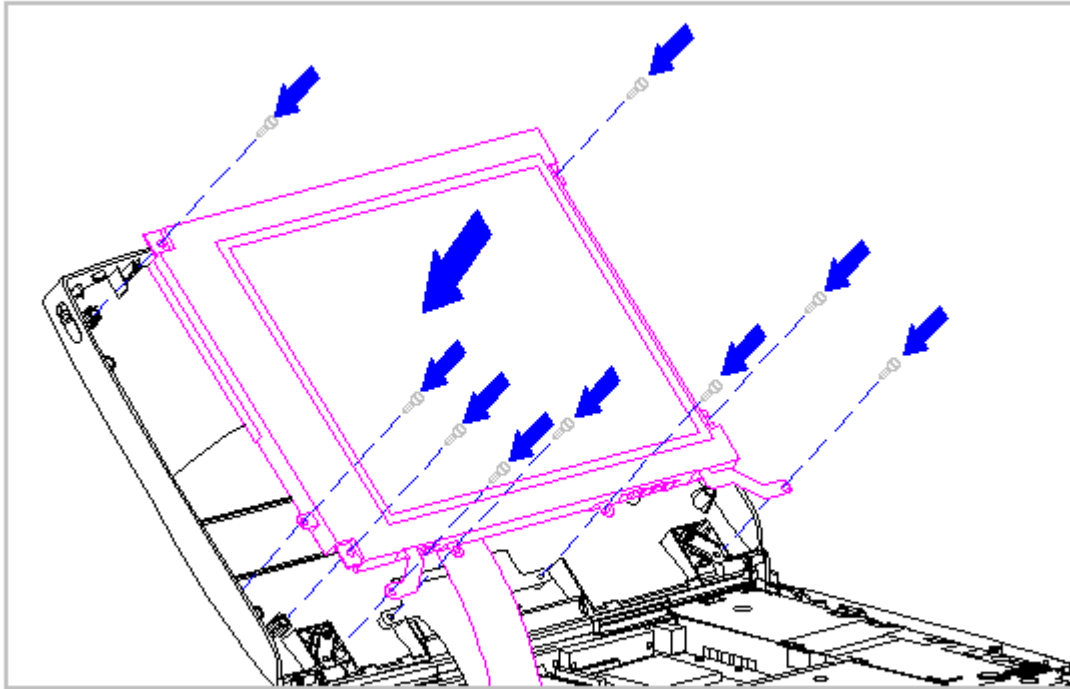

Figure 3-114. Aligning the CSTN (9.5 inch) Panel and the Display Shield (Models 400 and 410)
5. Align the CSTN (9.5 inch) panel, display cable, and shield in the display enclosure and replace the screws. Ensure that the ZIF connector end of the display cable and the end of the display ground cable are exposed at the bottom of the display enclosure (Figure 3-114).